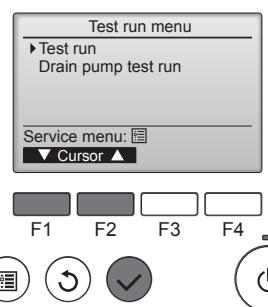

Fig. 6-4
- ④ Select "Test run" with the F1 or F2 button, and press the ② button. (Fig. 6-4)